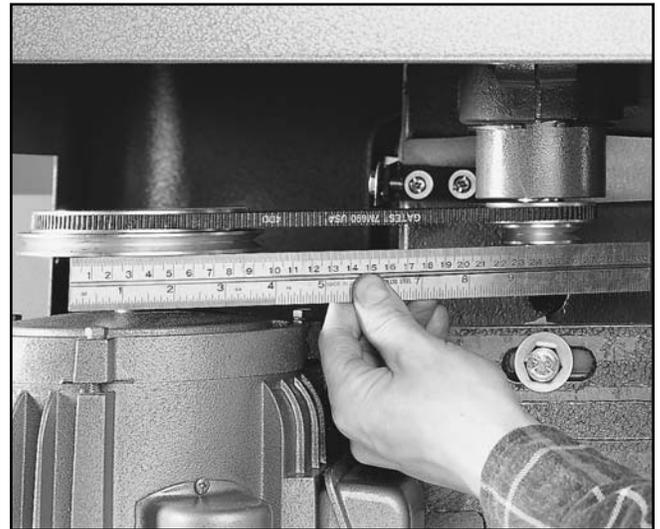

Figure 12. Inspecting pulley alignment.
2. Check the alignment with a straightedge. If the pulleys are in alignment, the straight-edge should touch two sides of each pulley evenly. **See Figure 12.**